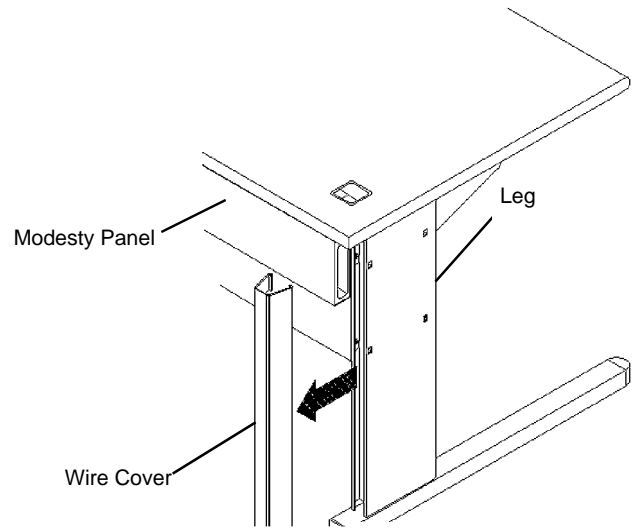

Figure 4
1. Remove the desired Wire Cover from the back of the leg by squeezing the outer surface inward to disengage it from the leg. Start at the top and work downward. See **Figure 4**.